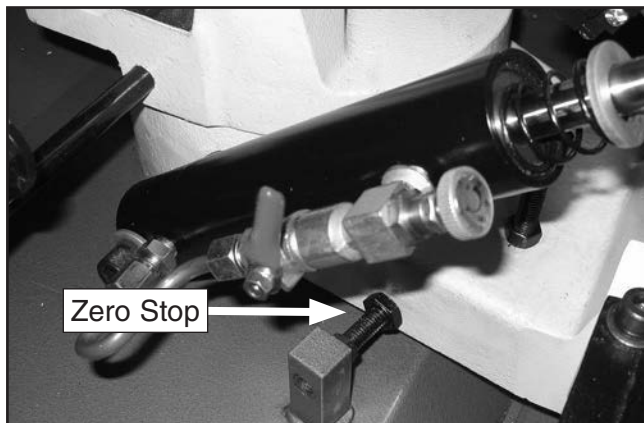

Figure 50. Zero degree swivel stop.
4. Observe the scale, and if the headstock has not completely stopped at zero, or if it has overshot the zero mark, adjust the zero stop (**Figure 50**) so it will line up with the mark .